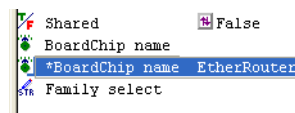

Figure 5-7 Assigning the EtherRouter BCD group
3. Select **EtherRouter** from the context menu. A new setting is displayed in the right pane with an asterisk \* beside it, shown in Figure 5-7.